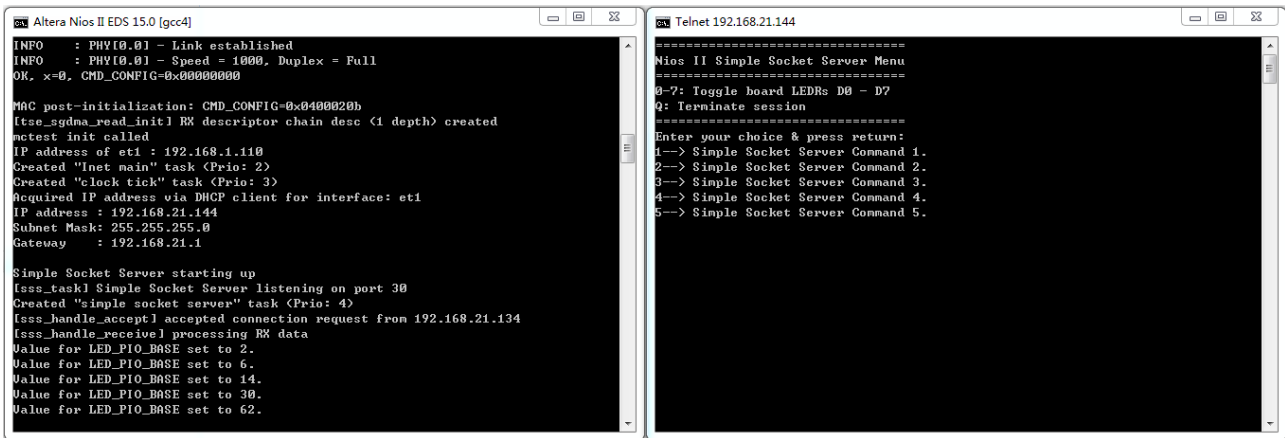

Figure 6-26 Display Progress and Result Information for the Socket Server Demonstration
- From the Simple Socket Server Menu, enter the commands in the telnet session. Entering a number from zero through seven, followed by a return, causes the corresponding LEDRs (D0-D7) to toggle on or off on the MAX 10 NEEK board as shown below in **Figure 6-26**.